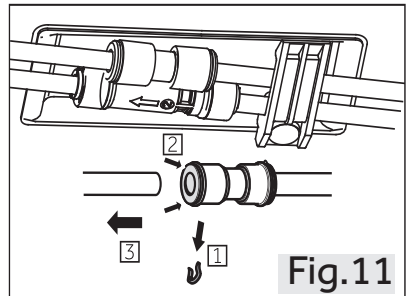

Fig.11
1.Release the left side of two water couplers on the front left corner at the bottom of appliance : press and hold in the collar as shown and remove the water pipe .(Fig .11).